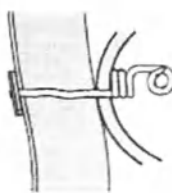

Fig. 4
5. After use, patient should remove connecting tube and pin from Trapdoor fitting, and close fitting to prevent leakage. (Fig. 4)